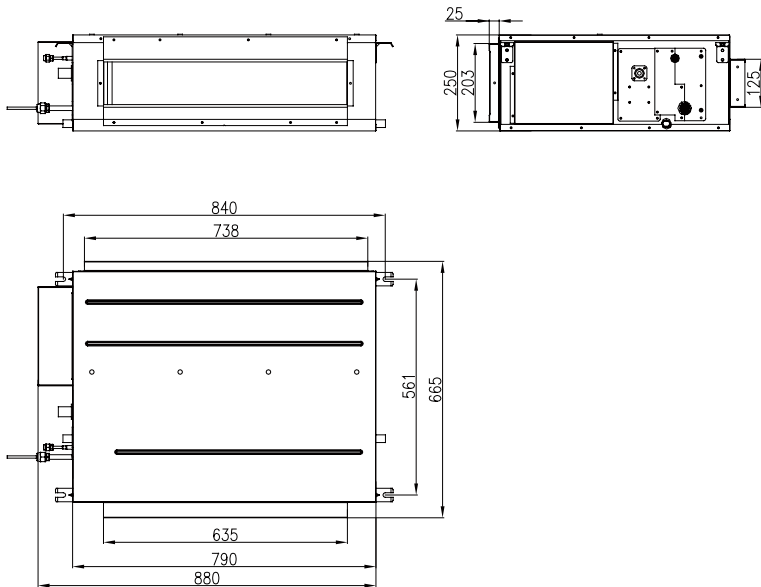
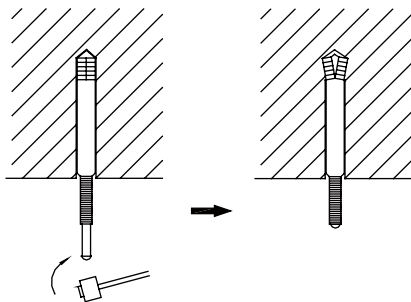

Fig.1
Fig.4
A. Insert the anchor bolt M10 to the hole then nail the iron nails into the bolts. The distance between holes is shown in fig.1. The installation of the anchor bolt is shown in fig.4.